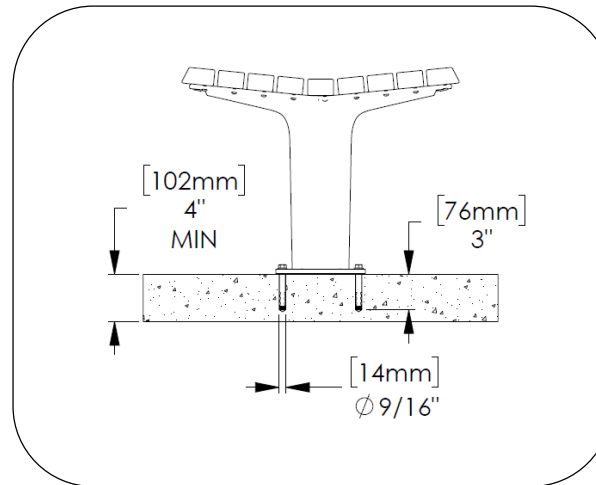

Fig. 1 – anchor hole size
1. Place unit in desired position and mark anchor locations through holes provided in base plate. See Figures 1 and 2 for minimum concrete base requirements.
2. Move unit and drill holes using 9/16" dia. drill bit, see Fig. 1.